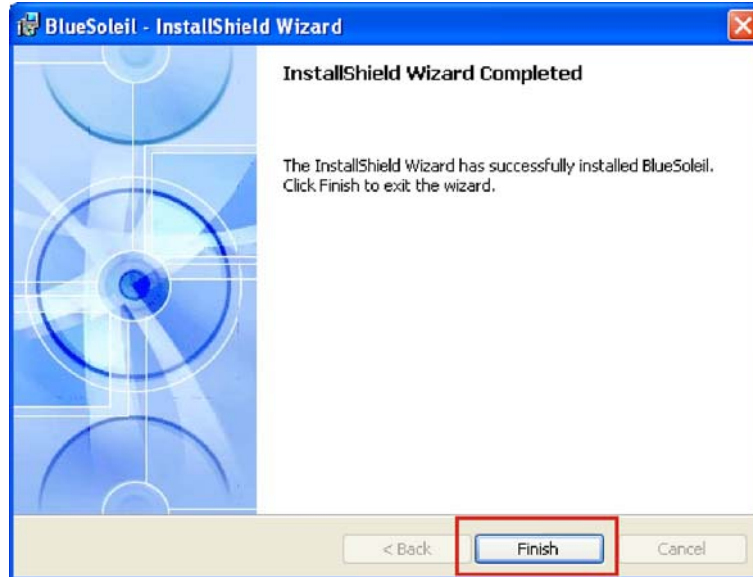

Figure 6-46: USB 2.0 Driver Installed
Step 19: The installation process continues without user prompts. When complete the window below appears (Figure 6-46).
Step 20: Click **FINISH** to close the InstallShield wizard (Figure 6-46).